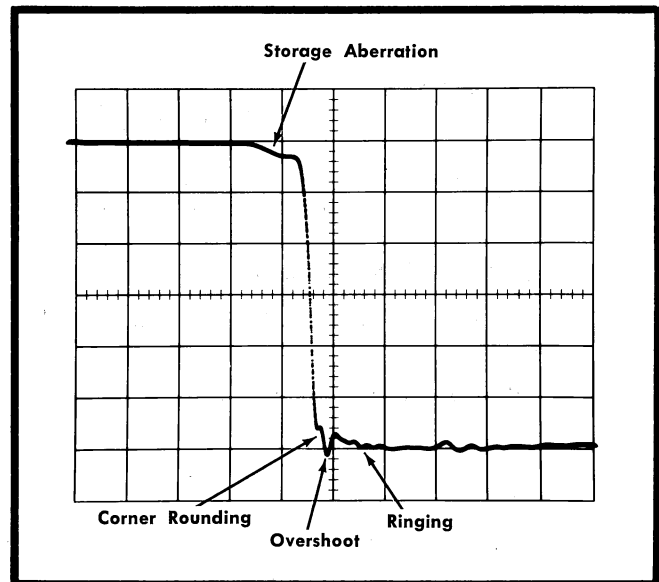

Fig. 5-6. Typical sampling-system display showing trailing-edge aberrations.
- c. CHECK—Sampling-system display for storage aberration 0.3 division or less (see Fig. 5-6).
- d. CHECK—Sampling-system display for corner rounding 0.6 division or less (see Fig. 5-6).
- e. CHECK—Sampling-system display for ringing 0.6 division or less (see Fig. 5-6).
- f. CHECK—Sampling-system display for overshoot 0.3 division or less (see Fig. 5-6).